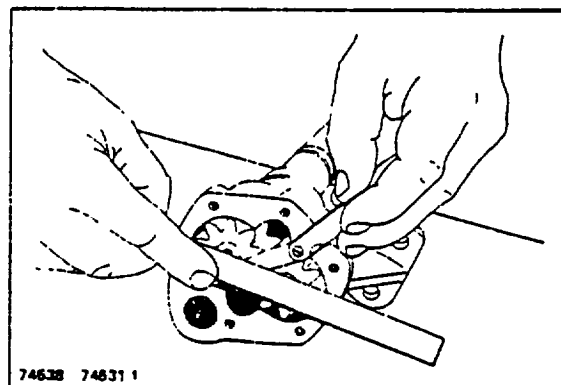

Figure 12-4. Checking Oil Pump End Clearance
5. Inspect the cover and face of the gears for excessive wear or scoring. With the gasket assembled to the body there should be .0015" to .006" clearance between the gears and the cover (Figure 12-4).